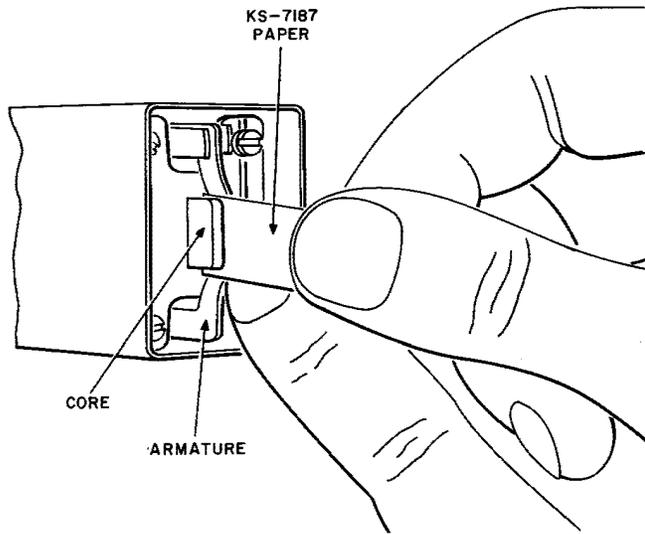

Fig. 44—Method of Cleaning Armature and Core on B- and G-Type Relays
7.04 Armatures, Cores, or Pole Pieces of B-, G-, J-, L-, N-, S-, 177-, 203-, 221-, 222-, 223-, 224-, 225-, 247-, 248-, 251-, and 252-Type Relays: Proceed as covered in 7.03 using KS-7187 paper instead of KS-7188 paper (see Fig. 44, 45, and 46).